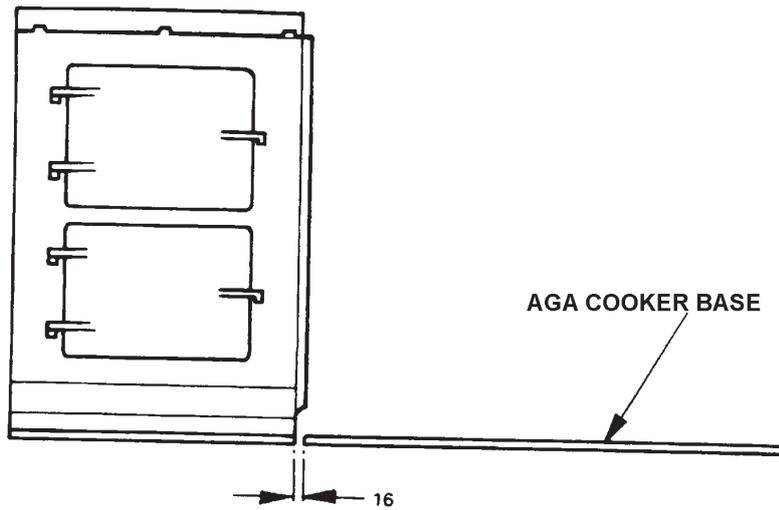

FIG. 3
6. Position the cooker alongside the main AGA baseplate leaving 16mm between the two bases (see Fig. 3).